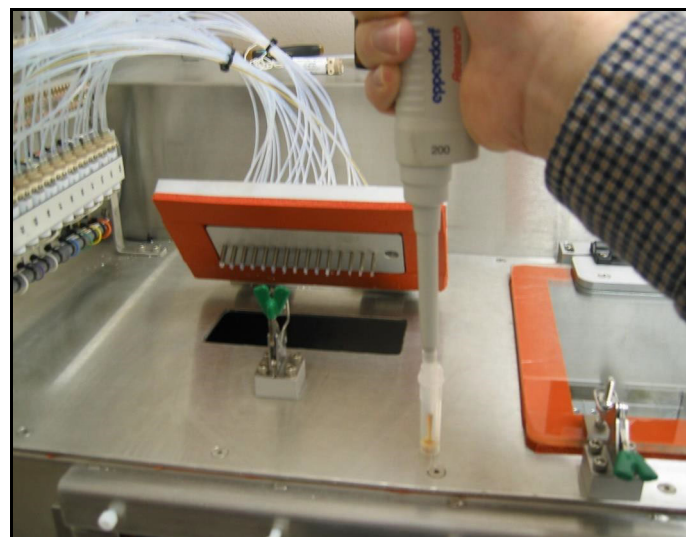

Figure 17
- Draw liquid into pipette and adjust until volume can be determined. It may be necessary to draw liquid in and out a few times to determine volume accurately. (Figure 17)